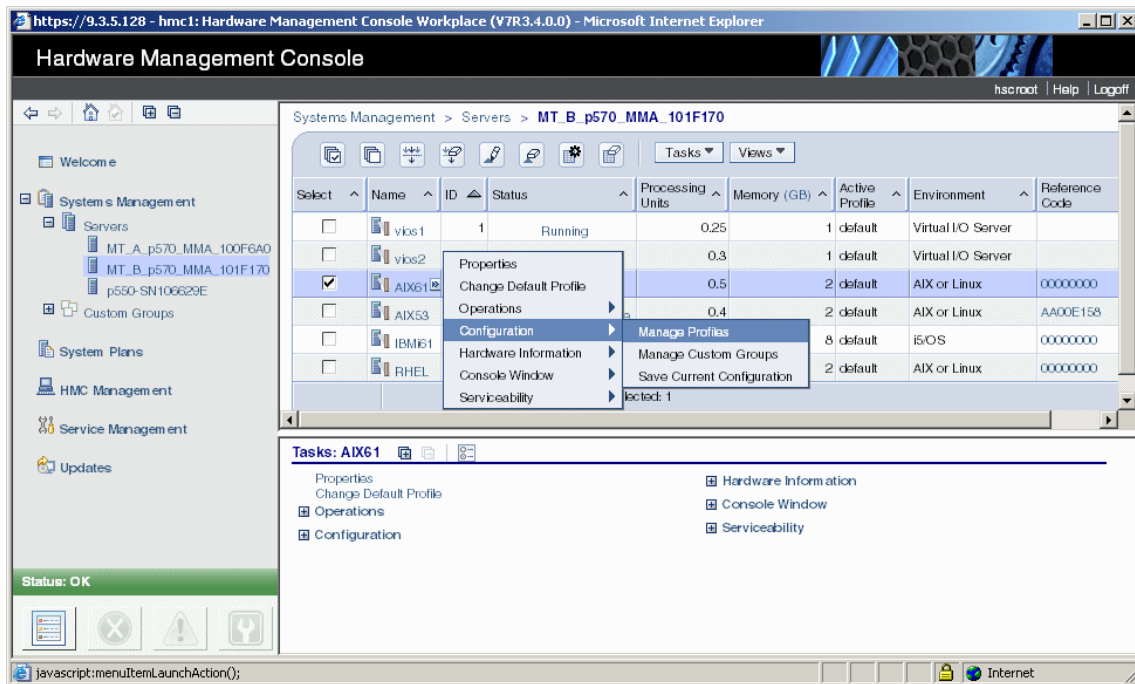

Figure 2-22 Change profile to add virtual Fibre Channel client adapter
- a. Select the virtual I/O client partition on which the virtual Fibre Channel client adapter is to be configured. Then select **Tasks** → **Configuration** → **Manage Profiles** as shown in Figure 2-22: